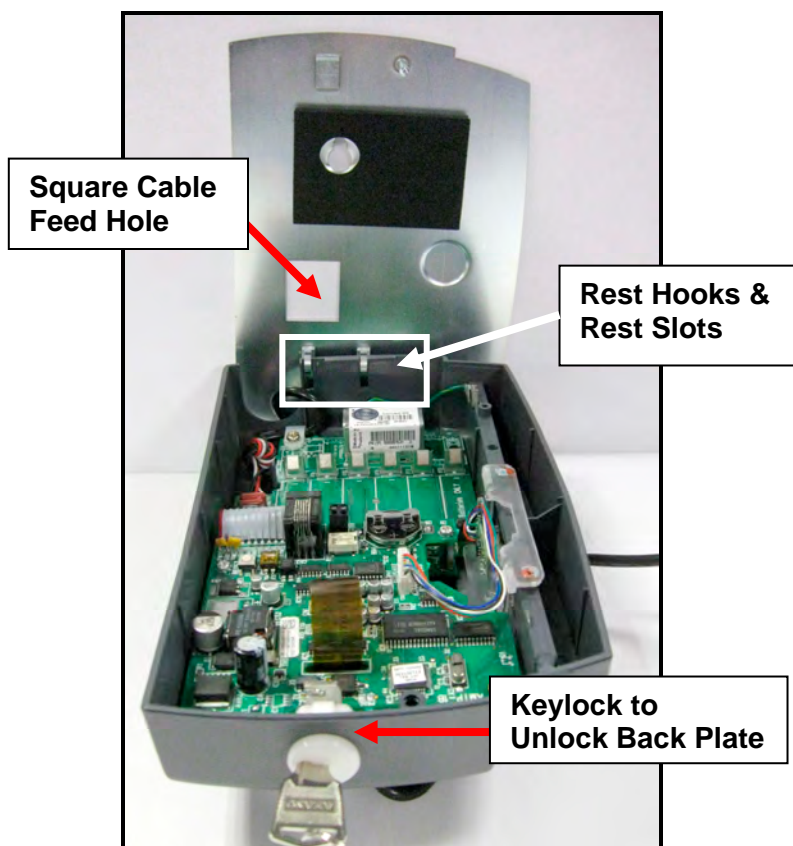
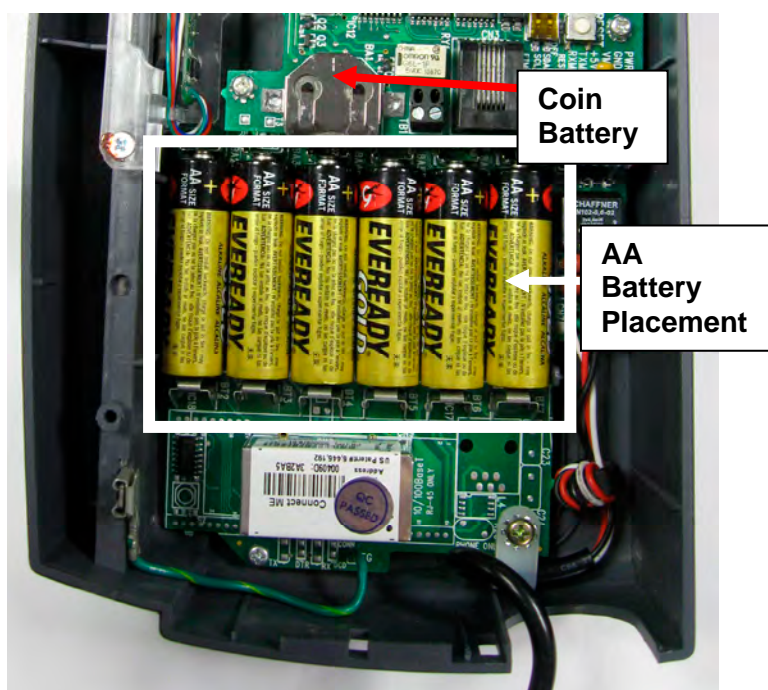

Figure 4: MTX-15 Terminal on Rest Hooks
Figure 7: AA Disposable Battery
- Step 3.** Install a screw or anchor at the mark and hang the back plate from the top-mounting hole. Level the back plate by centering the vertical line in the bottom hole (see **Figure 4**).
- Step 5.** If using the square Cable Feed hole in the Backing Plate for power or communications, mark this location (see **Figure 4**).
- Note:** The Rest Slots on the terminal slip over the Rest Hooks (see **Figure 4**) on the Back Plate to hold the terminal in the open position for wiring and configuration, such as connecting to the signal relay to ring a bell (see **Figure 7**).
Once the terminal back plate has been removed the 6 disposable AA batteries should be inserted in the battery slots in the correct position [polarity] (see **Figure 7**). These batteries are used to provide emergency full power reserve for a limited time should AC power to the terminal be interrupted. During this type of emergency the terminal will maintain full function utilizing the power from these batteries to let employees in or out. However, the amount of reserve power provided by these batteries corresponds to the battery level as these batteries are disposable and not charged by the MTX-15. Also, the battery life can be reduced by the type of MTX-15 (i.e., the Ethernet MTX-15 requires the most power). The function of these batteries should not be confused with the coin battery function, which maintains power to the flash memory for setup and transactions.